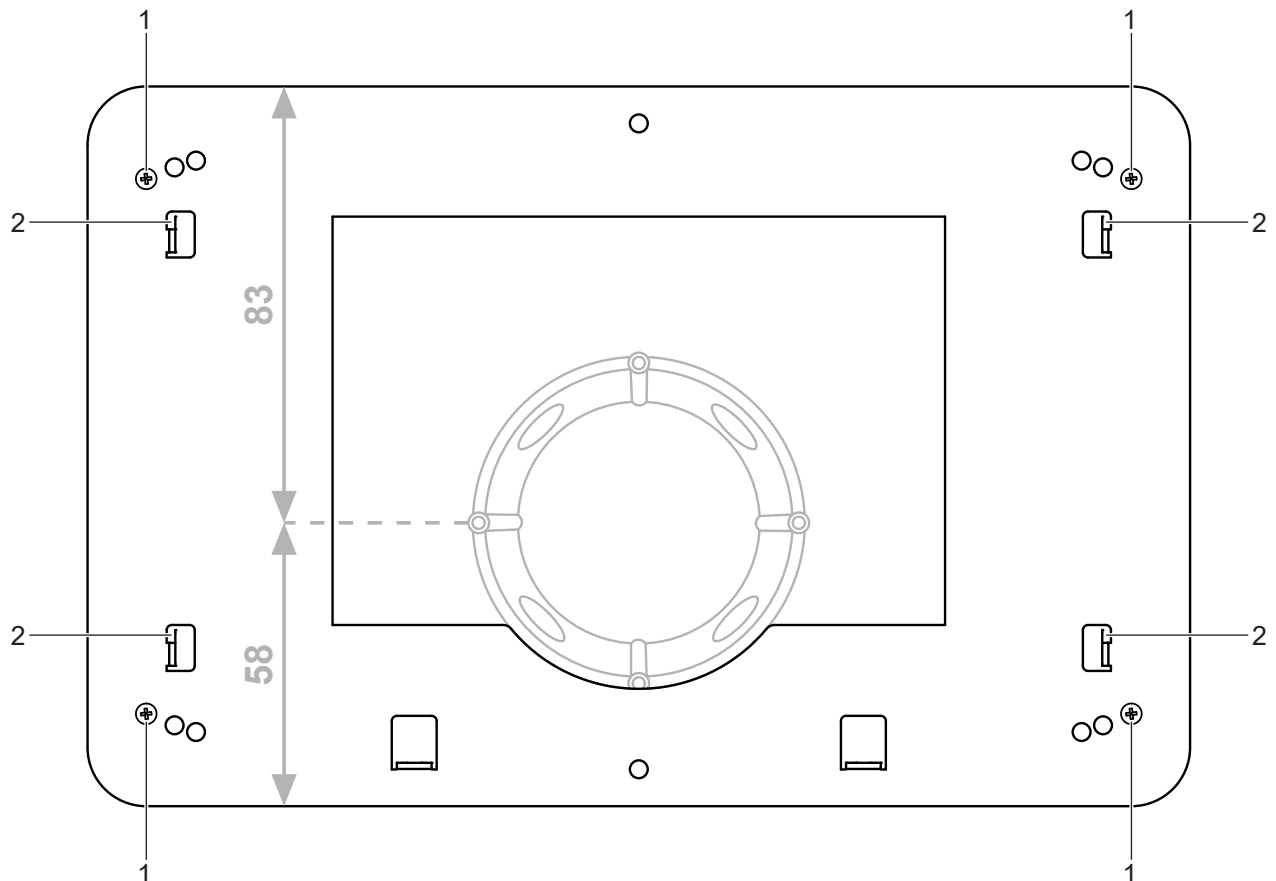
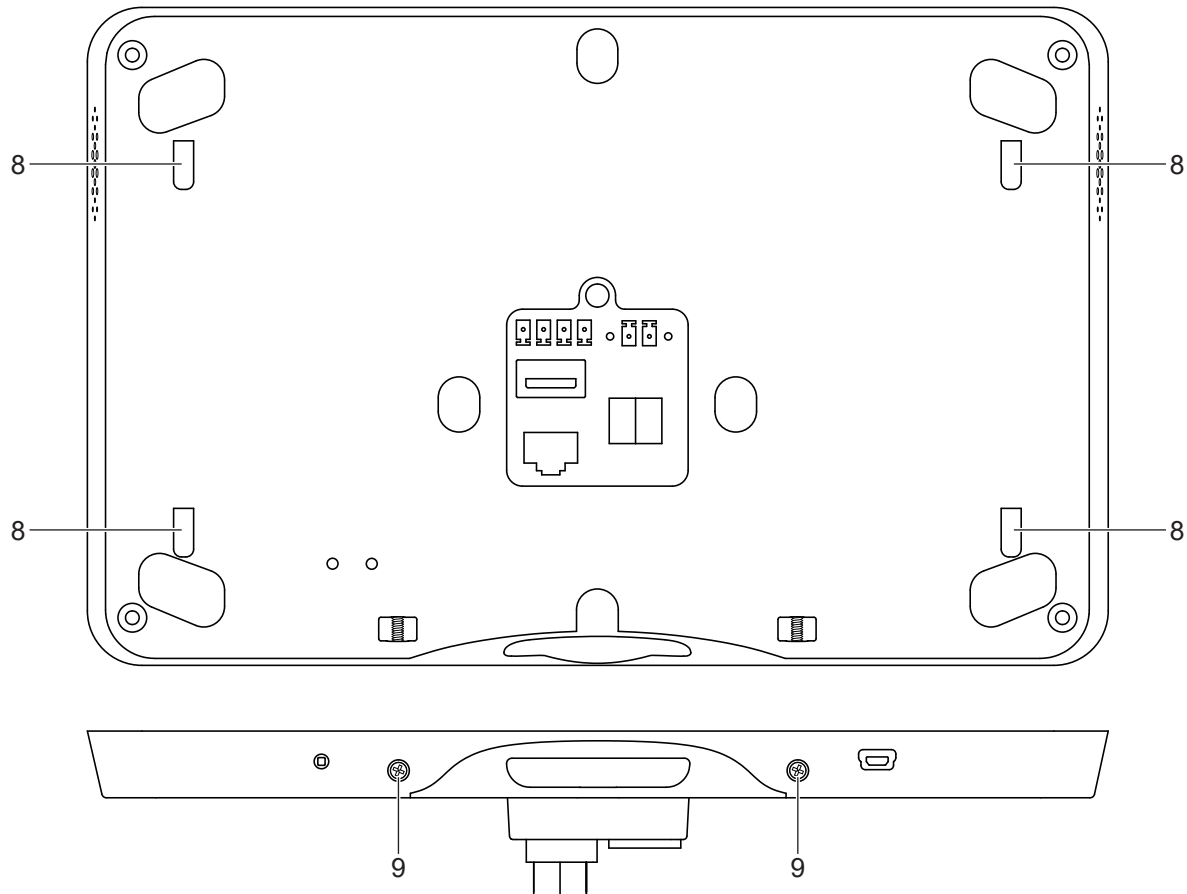

Fig. 2: Mounting the adapter
Fig. 4: Mounting the Smart Panel
- Mount the adapter on the installation box with a total of four locking screws (1). (fig. 2)
- Place the openings for wall mounting (8) on the Smart Panel on the fixing hooks (2) on the adapter. (fig. 2 and fig. 4)
- Fasten the Smart Panel to the adapter on the underside with a total of two locking screws (9). (fig. 4)